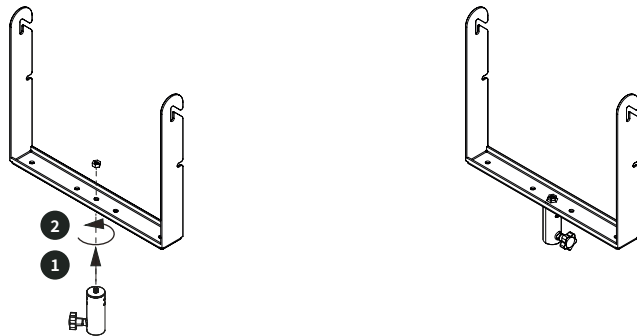

**Figure 8.** Attaching the **SMX 12UB** U-bracket to the SMX 12A monitor.
9. Push the U-bracket until the handle screw is in position **B** of the U-bracket's arm, as shown in figure 8. Tighten softly the handle screws.